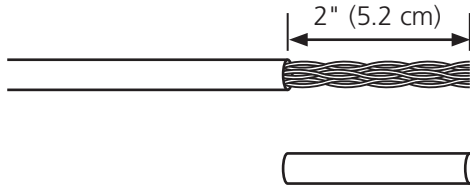

Figure 1. Stripping the cable jacket.
1. Strip the cable jacket approximately two inches (5.2 cm). See Figure 1.